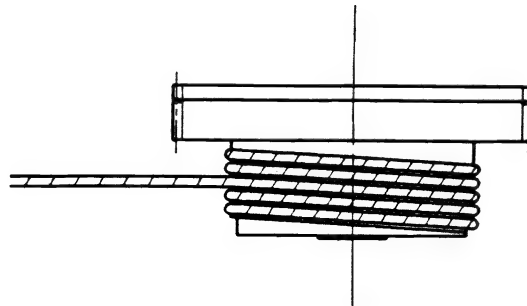

Fig. 6.3
- (1) Make sure that the wire clips are correctly attached to the carrier drive pulley assembly and that the drive wire is wound around the grooves of the drive pulley drum.
- (2) Pull the drive wire, fully unwinding the wire from the drive pulley, then wind it back. Repeat this two or three times to make sure the wire is pliable enough to smoothly wind around the pulley. (The rope tension at this time is 300 to 400 g/5 mm.)
- (3) Rotate the carrier drive pulley until the upper drive wire comes off from the middle of the drum groove. (Fig. 6.3)
- (4) Check and adjust the drive wire tension between the carrier drive pulley and the tension pulley using the following procedure: